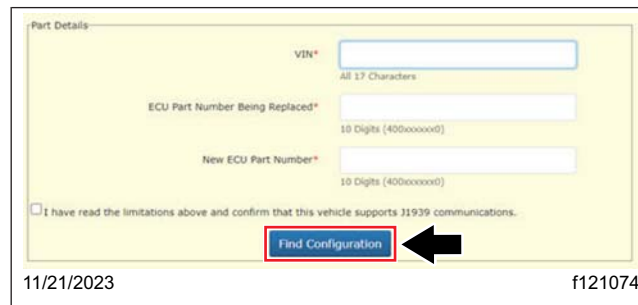

Fig. 10, Finding ABS ECU Configuration
14. Enter the VIN and the ABS ECU part number, then select 'Find Configuration.' See Fig. 10.